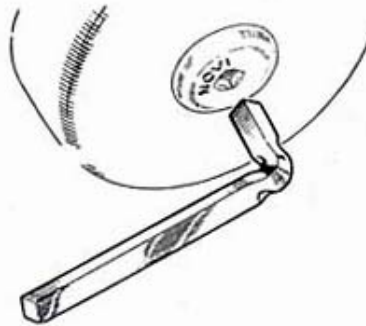

Fig. 1
- Loosen the rotor nut (left hand thread) using the square drive wrench, 100023, (fig. 1).